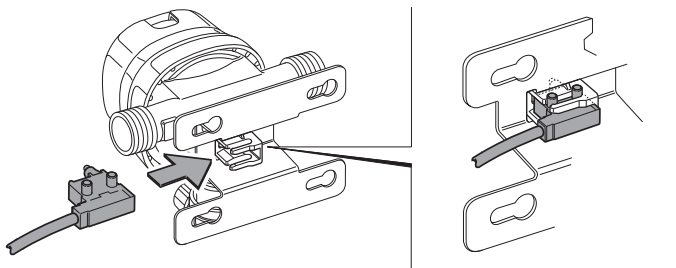

Fig. 4
► Slide the transmitter into the support of DuoControl CS from the side (Fig. 4). The transmitter must engage tangibly in the support.